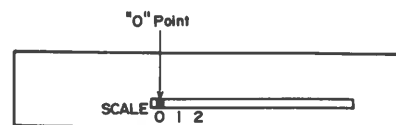
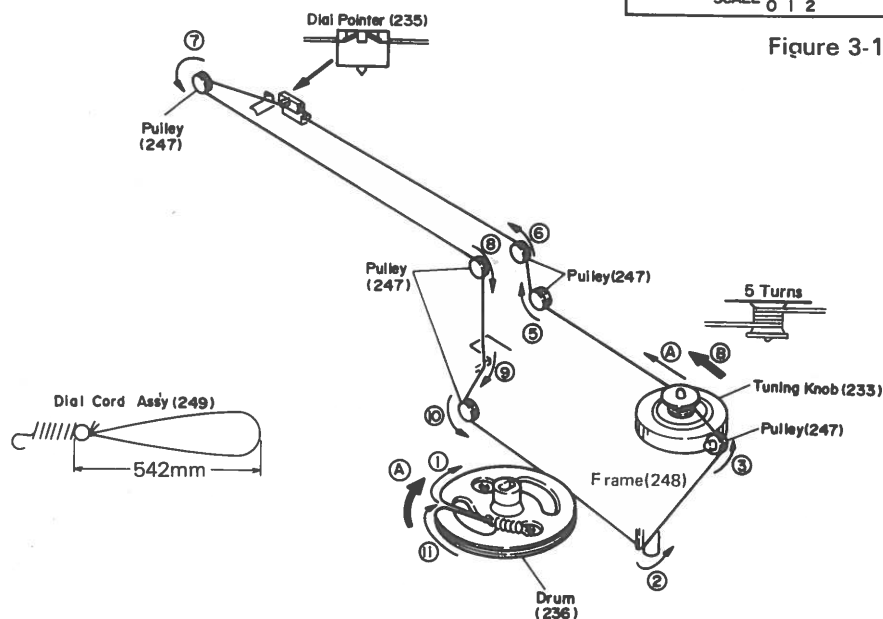

Figure 3-1
Figure 3-2
1. Turn the drum fully in the direction ① shown in Fig. 3-2 and stretch its cord over the parts in the numerical order.
2. Then turn the tuning control shaft fully in the direction ② shown in Fig. 3-2 and fix its pointer as shown in Fig. 3-1.